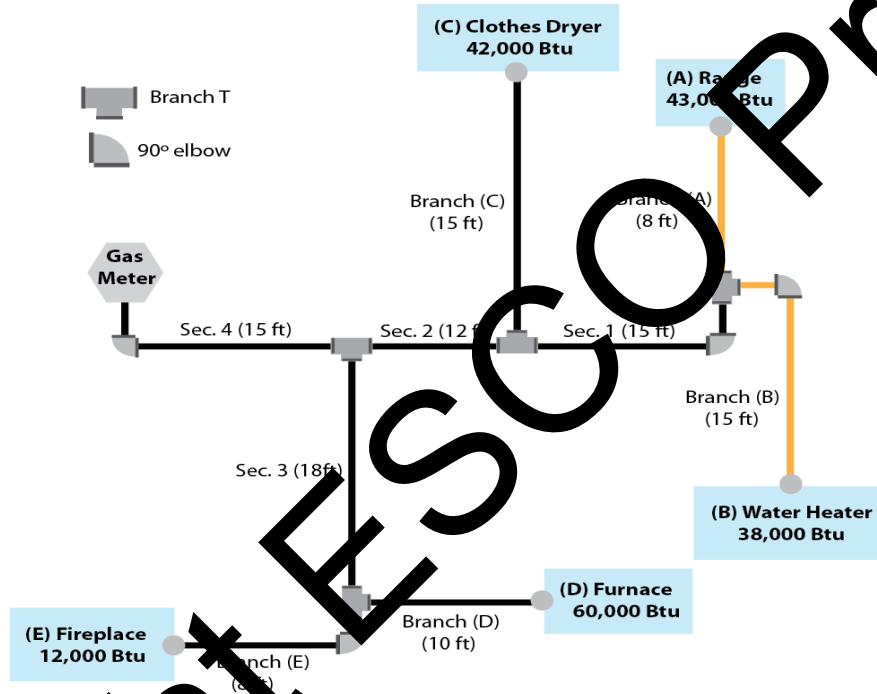

Figure 9-11 (A)
- C. Next, size the two branches of Sec. 1, (A) & (B), Figure 9-11 (A). Starting with branch (A), the factors to determine the pipe size are the original longest length, 60ft., and the Cfh for the range, 43Cfh. Referring to the chart, using the 60ft. row, it can be determined that a ½-inch pipe is needed for branch (A). Notice 50Cfh is more than the 43Cfh required, Figure 9-11 (B).
- D. Next, size Branch (B) in the same manner. Using 38Cfh on the 60ft. row, it can be determined that a ½-inch pipe is required for Branch (B).